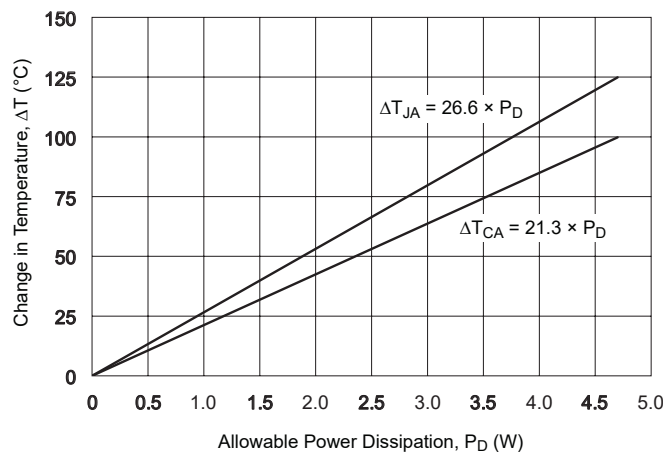

Figure 16. Power dissipation estimate for junction-to-ambient and case-to-ambient temperature change
Based on the power dissipation of the product thus calculated, the junction temperature of the product is estimated by using the temperature rise curves of figure 16.
Unless the temperature exceeds 150°C under the worst conditions (the maximum values of ambient operating temperature), there will be no problem, but final judgment should be made by measuring the device temperature during the actual operation and then verifying power dissipation and junction temperature in accordance with figure 16.
2. From the temperature rise thus obtained, the power dissipation, P_D , and the junction temperature, T_J , are estimated using figure 16.